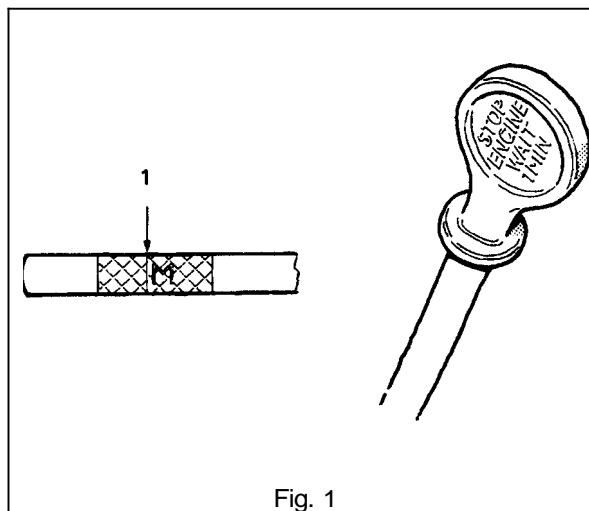

Fig. 1
- (Fig. 1), check the oil level – replenish as necessary.